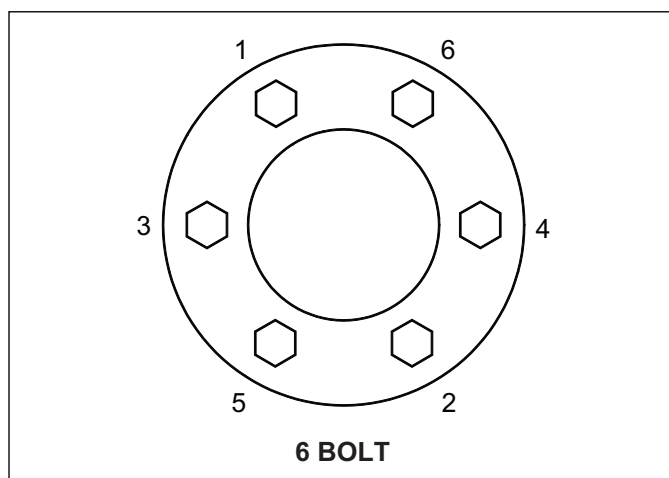

Figure 4-1: Wheel Bolt Tightening Sequence
*After several hours of use re-torque Wheel Bolts 90-100 Ft-Lbs. For tightening sequence, **See Figure 4-1.***